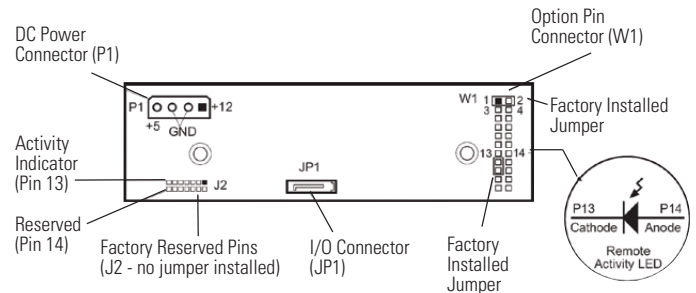

Figure 2: Receiving Frame Motherboard (Rear View)
Factory-installed jumper. Refer to Figures 2 & 4 for further information.
- b. Host connection (cable not included) to J2 Pin 13 located on Receiving Frame Motherboard (Figure 2).